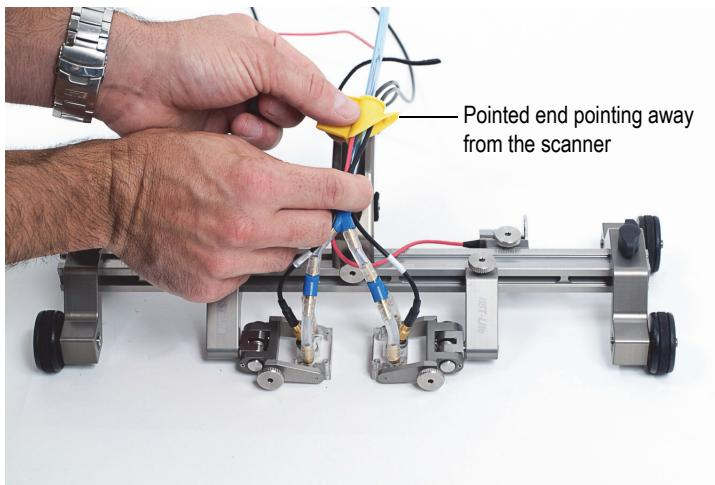

Figure 1-15 Draw-in tool installed on cable and tube bundle
3. Install the draw-in tool on the cable and tube bundle. The pointed end of the draw-in tool should point away from the scanner (see Figure 1-15 on page 30).